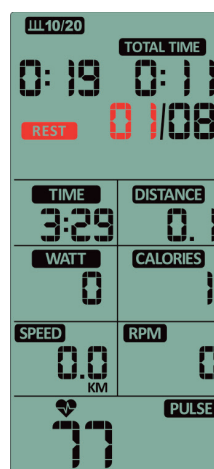

Figure 28
- C. The window displays 01/XX, REST keeps flashing, and TIME starts counting down from 20 seconds (Figure 28).